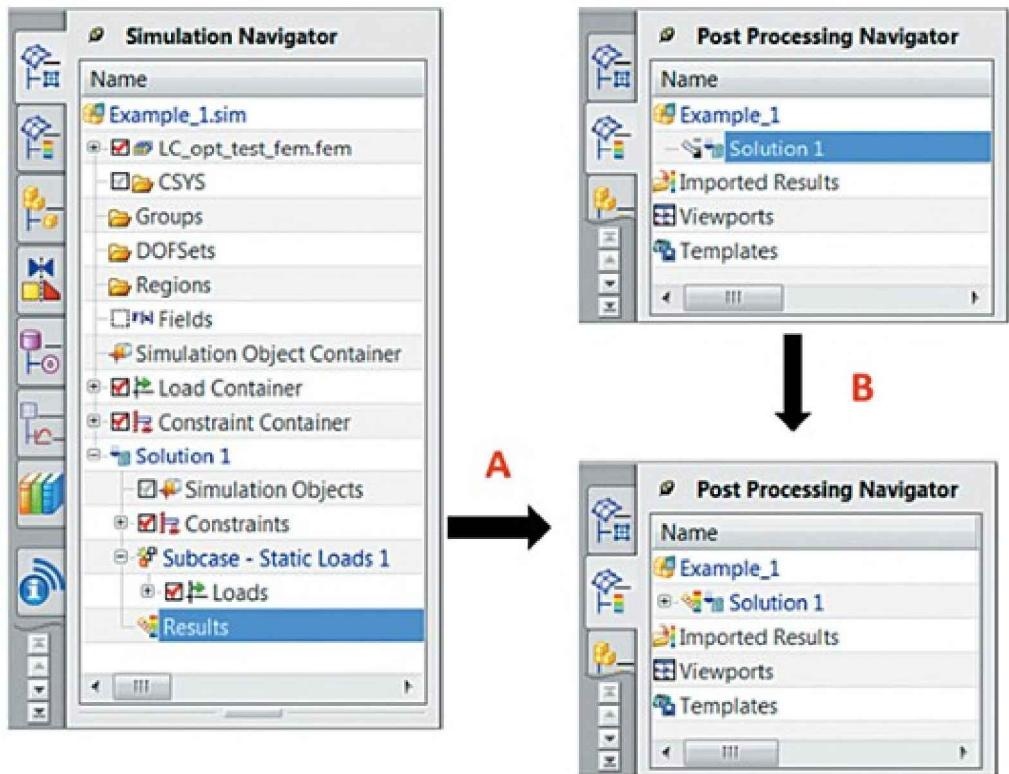

Figure 5.4. Loading simulation results into the postprocessor
- In the model tree view of the **Simulation Navigator** tab, double-click the *Results* node. You are then automatically taken to the **Post Processing Navigator** with the results loaded (Figure 5.4, A).
- In the **Post Processing Navigator** tab, double-click the item with the name of the completed solution (Figure 5.4, B).